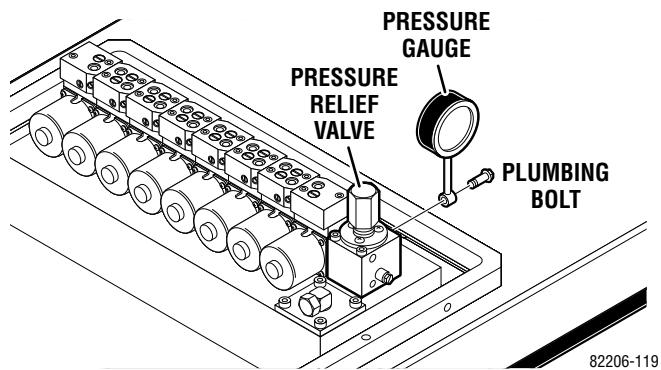

Figure 1-19.
1. Remove the plumbing bolt securing the brake system line to the pressure relief valve and attach a hydraulic pressure gauge to the main oil galley using a long 6mm plumbing bolt. See figure 1-19.
1. Attach the pressure gauge onto the main oil gallery as shown in figure 1-19.